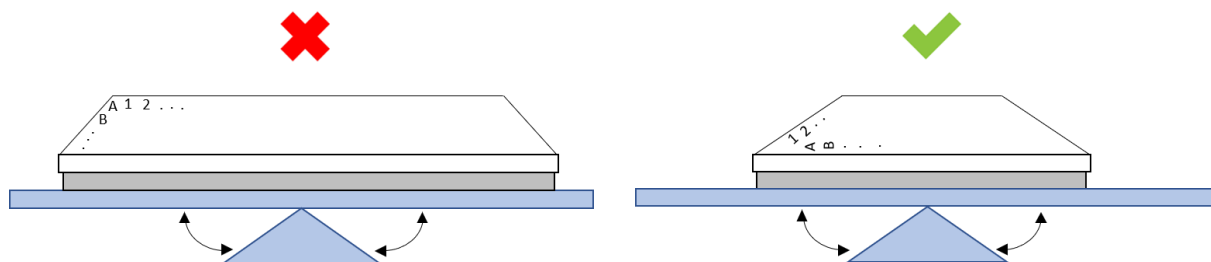

Figure 6: Place the OrganoPlate® on the MIMETAS rocker in the correct orientation
11. Place the plate on the MIMETAS Rocker in a humidified incubator to start cell culture (see figure 6)
6. Place the plate on the MIMETAS Rocker in a humidified incubator to continue cell culture (see figure 6)